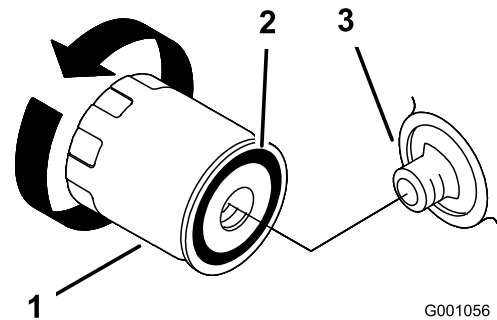

Figure 22
2. Remove the old filter and wipe the filler adapter gasket surface (Figure 22).
3. Apply a thin coat of new oil to the rubber gasket on the replacement filter (Figure 22).
4. Install the replacement oil filter to the filter adapter, turn the oil filter clockwise until the rubber gasket contacts the filter adapter, then tighten the filter an additional 2/3 to 1 turn (Figure 22).